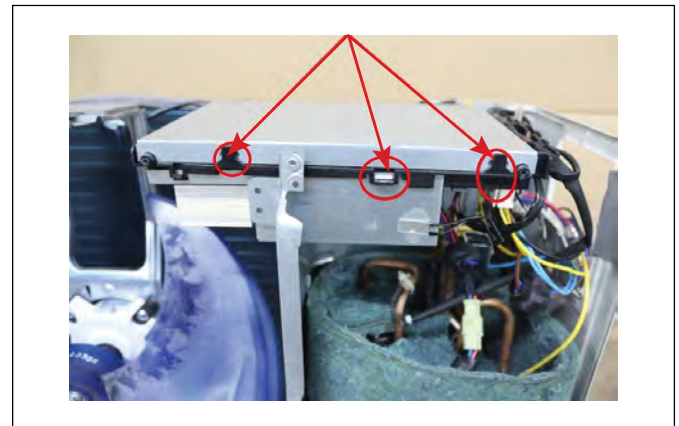

Figure 85
4. Disconnect the electronic expansion valve wire (Fig. 85, pos. 4) from the control board